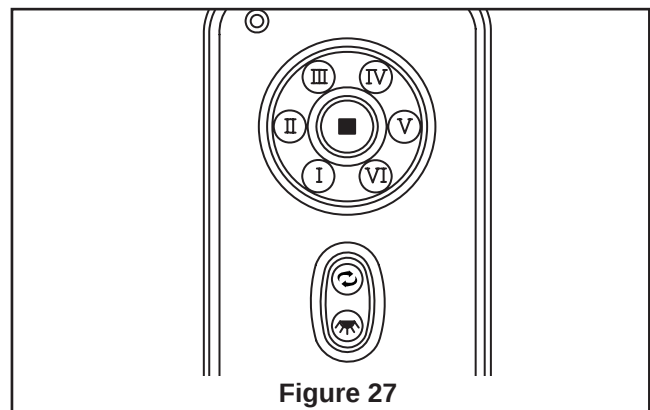

Figure 27
- Light button: The button is to control light, Infinite light levels are available by holding the light on/off button (Figure 27).